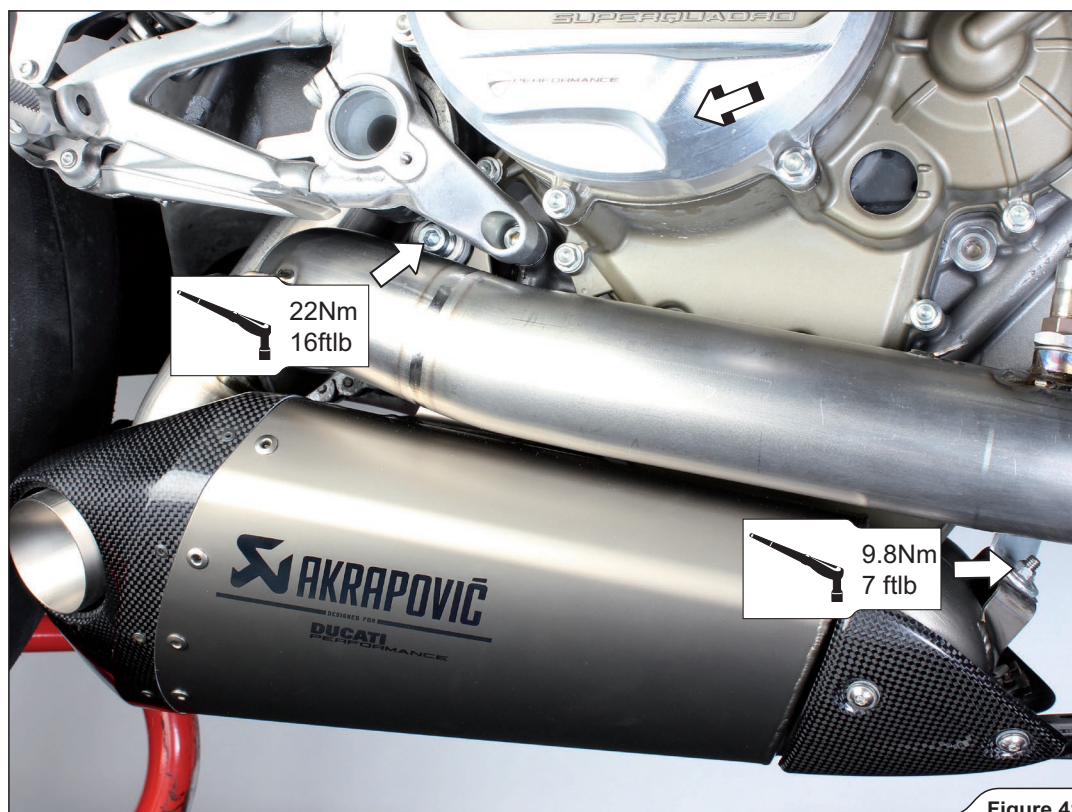

Figure 41
12. Align the mufflers and pipes in respect to the motorcycle and tighten the mufflers onto the motorcycle, using stock bolts and nuts (Figure 41).